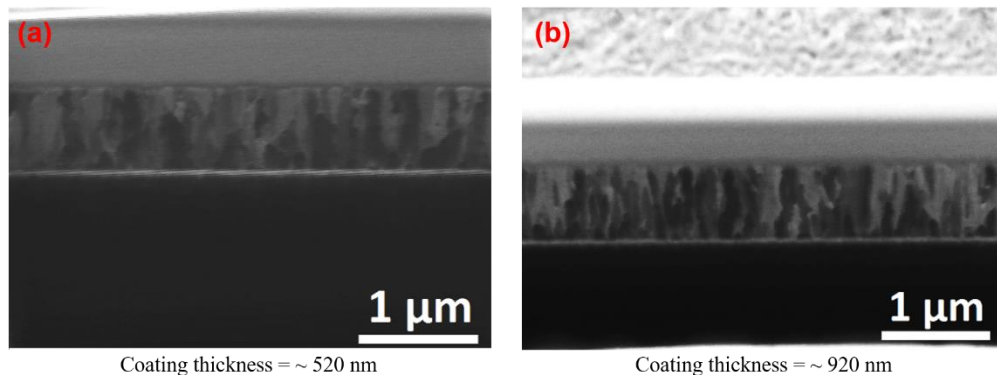

Fig. 1 Focused ion beam images of (a) Cr- 6.45 at. %Ag and (b) Cr- 0.85 at. %Ag
The ion induced SE images of Cr-Ag coatings are shown in Fig. 1, which clearly illustrates the columnar texture of coatings. Grain growth is perpendicular to substrate surface. Moreover, columnar grain sizes increase as Ag content increases as shown in the FIB micrographs in Fig. 1 and can be confirmed from bright field TEM micrographs as shown in Fig. 2 (a) and 1(b). SAED patterns are also shown as an inset in the bright field TEM micrographs of Cr-Ag coatings in Fig. 2 (a) and 1(b) that are consistent with XRD patterns as shown in Fig. 2(c). Moreover, the XRD and SAED patterns confirms the existence of Ag (111) when Ag content is increased.